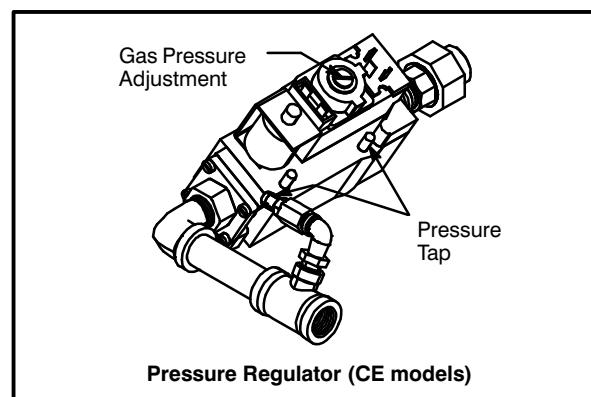

FIGURE 3
7. Adjust gas pressure if necessary. See FIGURE 3.